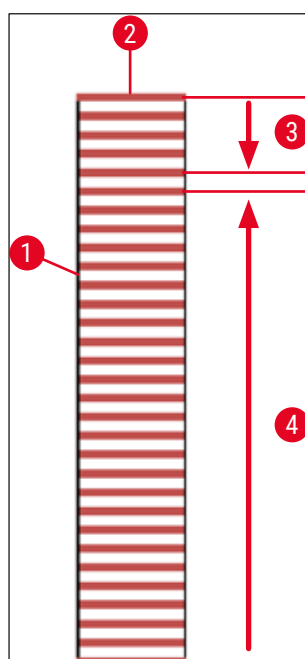

Fig. 74
In order to prevent slides from drying out during processing, the first 5 slides are always coverslipped first. Then the rack moves upwards and continues coverslipping with the last slide in the rack (→ Fig. 74).
- The schematic display (→ Fig. 74) of a rack (→ Fig. 74-1) with inserted slides (→ Fig. 74-2) shows the sequence during processing.